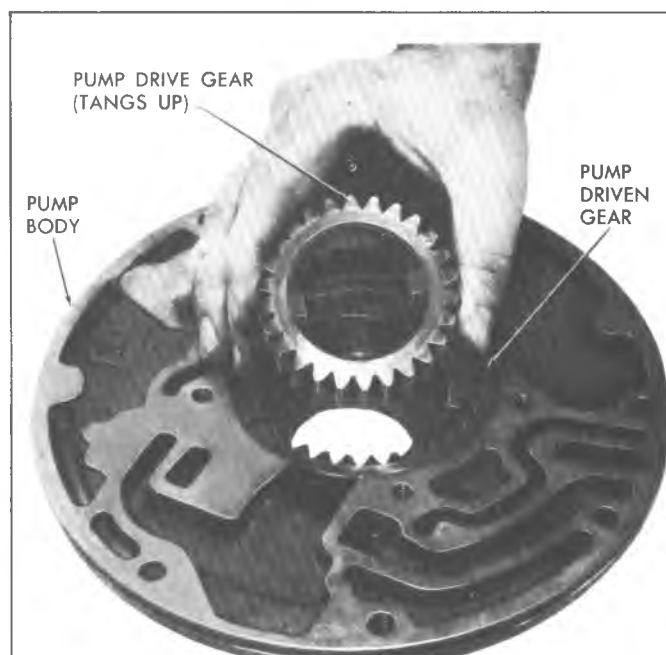

Fig. 63T--Installing Pump Drive Gear
11. Mark drive and driven gears for reassembly in same position and remove from the pump body. See figure 63T.
marks up into pump body (fig. 63T) drive gear tangs up.